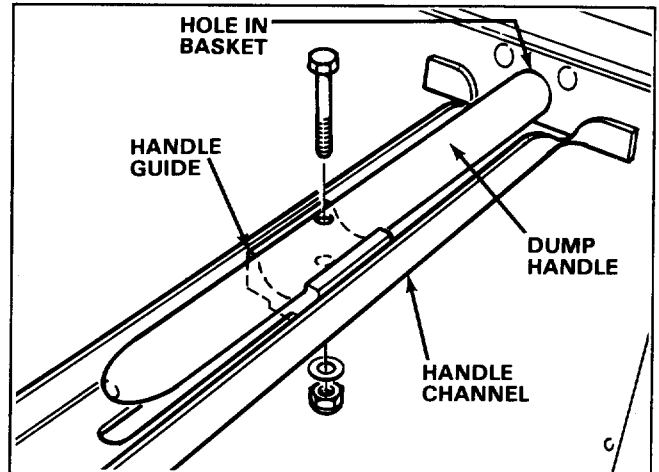

Figure 3
1. Open grass basket and slide dump handle through hole in top of basket and into handle channel (Fig. 3). Make sure handle grip points toward front of grass basket.
2. Lift up on end of dump handle allowing handle guide to be positioned onto handle and into channel (Fig. 3). Align hole in guide with hole in dump handle. Secure handle guide and dump handle to channel with a 1/4-20 x 2" lg. capscrew, flatwasher and locknut. Dump handle and guide must slide freely in handle channel.